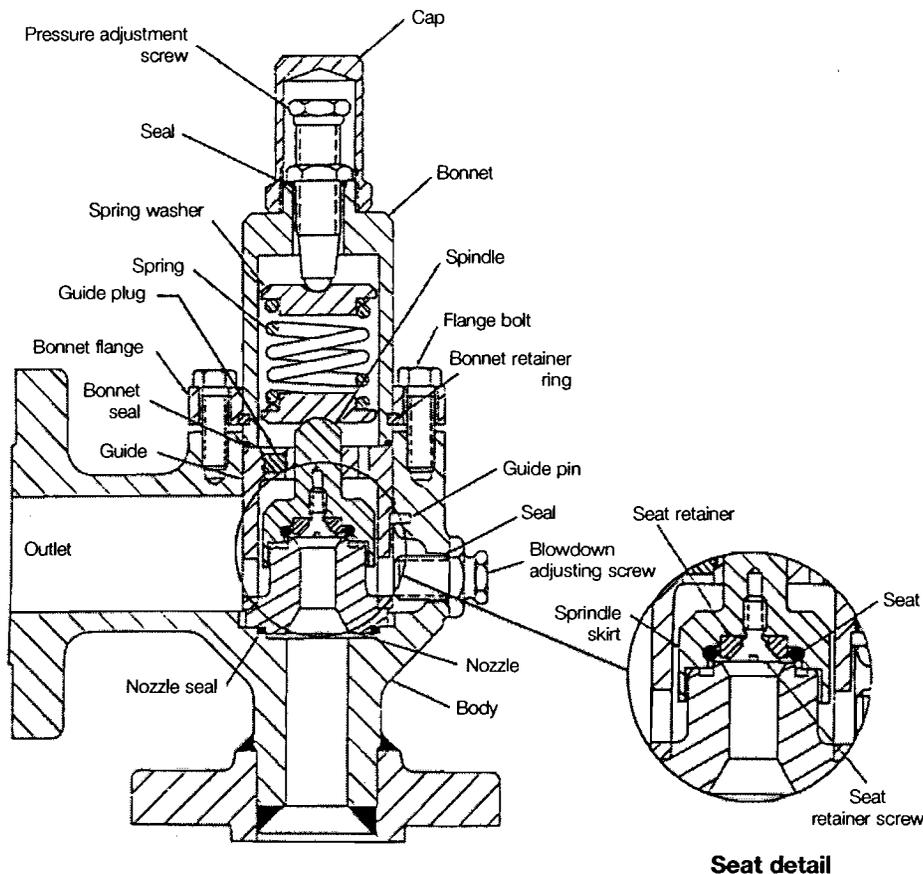

Figure 2
3. Valve repair (F, G, H & J Orifice) refer to figure 2